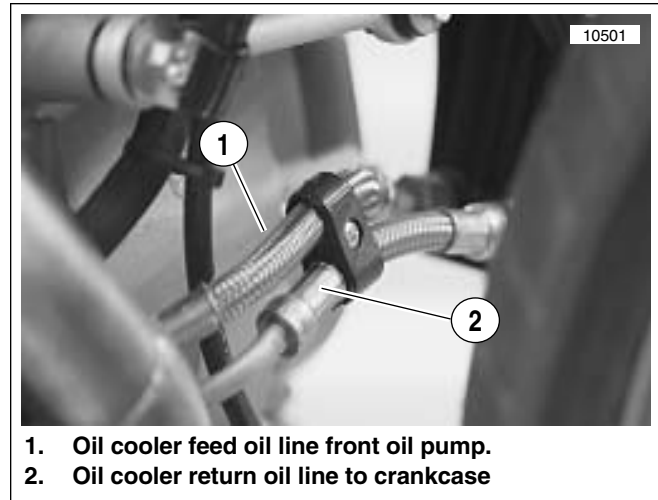

Figure 3-49. Oil Cooler Oil Lines
30. See Figure 3-49. Install oil cooler oil feed line first at oil pump and tighten to 22-24 ft-lbs (29.8-32.5 Nm). Lightly coat the threads of the oil cooler fitting with clean H-D 20W50 engine oil. Wipe off any excess oil. Tighten feed oil line to 19-21 ft-lbs (25.8-28.5 Nm) at oil cooler making sure to center the oil line between the oil sending switch and the return oil line fitting on the crankcase.
See Figure 3-49. The orientation of the oil cooler return oil line where it enters the crankcase should be at approximately 6 o'clock to allow for proper alignment and clearance of other components on the vehicle.